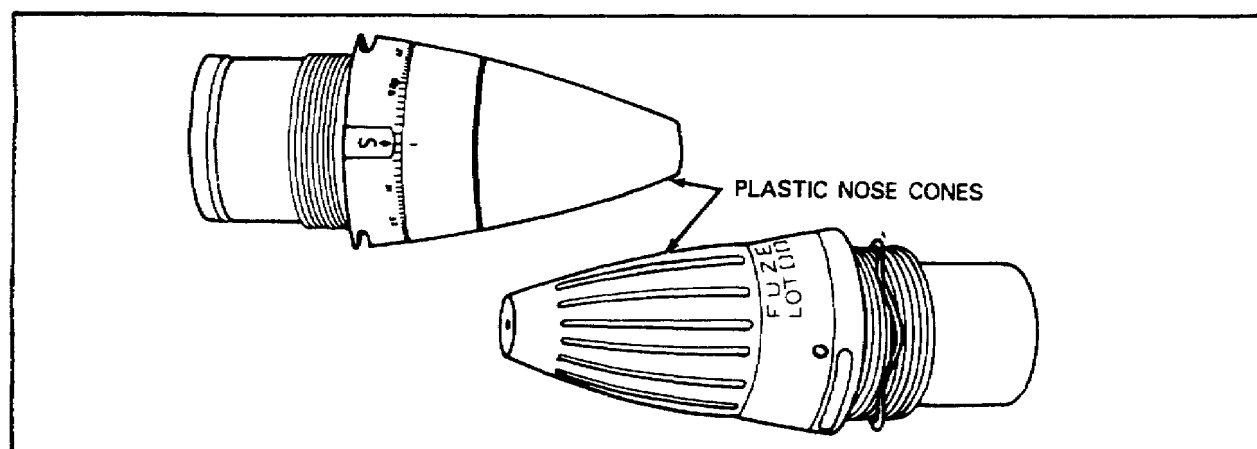

Figure 71. Proximity (VT) Fuzes for 81mm Mortar.
Proximity. The proximity fuze, also known as the variable time (VT) fuze, is readily identified by its olive drab plastic nose cone. Figure 71 shows the two proximity fuzes now used in 81mm mortar ammunition.